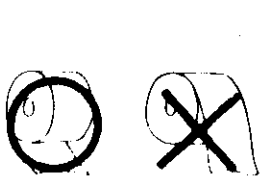

Fig. 1
- 2) Install it with the receipt paper coming from the bottom of the roll (see Fig. 1).